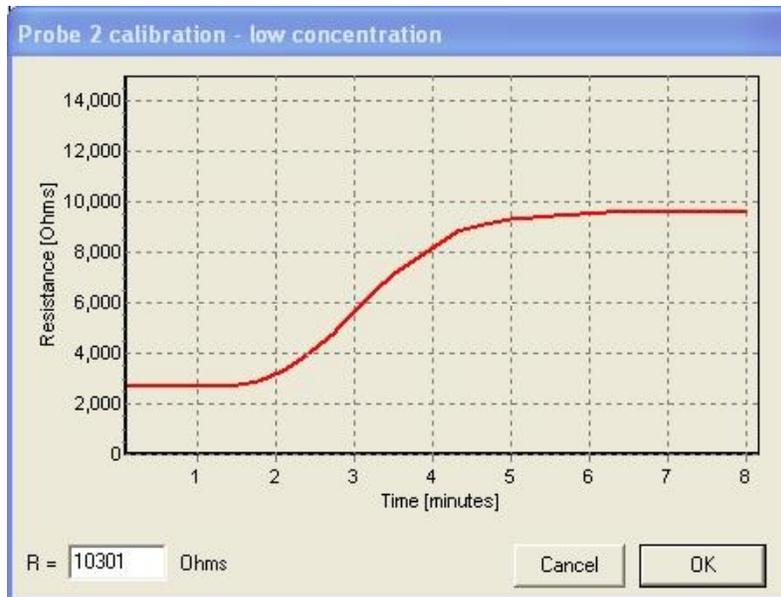

fig. 22
- Enter the Low Point value: 1000 PPM and click on the upper READ button. You will see the small graph (figure 22) showing the probe resistance change in the time and filtered current resistance value.
- After the probe resistance stabilize click on OK button (figure 22). The current probe resistance reading will be shown at the right of the “Read” (figure 23).